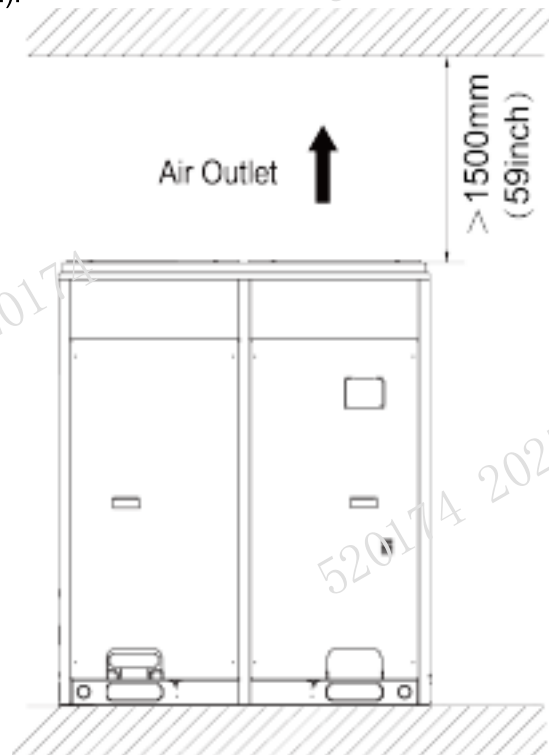

Fig.1
- (2) When there is wall (or similar obstruction) above the unit, keep the distance between the unit top and the wall at least 3000mm (118-1/8inch) or above. When the unit is located in a totally open space with no obstructions in four directions, keep the distance between the unit top and wall at least 1500mm (59inch) or above (See Fig.1). When space is limited within 1500mm (59inch) or the unit is not set in an open space, air outlet pipe is required to be installed in order to keep good ventilation (See Fig.2).